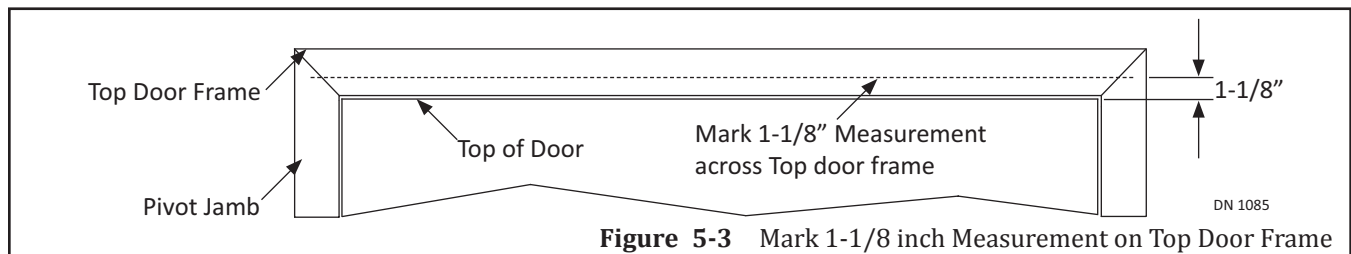

Figure 5-3 Mark 1-1/8 inch Measurement on Top Door Frame
1. Go to the Pivot Side of Swing door. Measure up 1-1/8 inch from the Top of door to the face of Door Frame. Please see Figure 5-3.